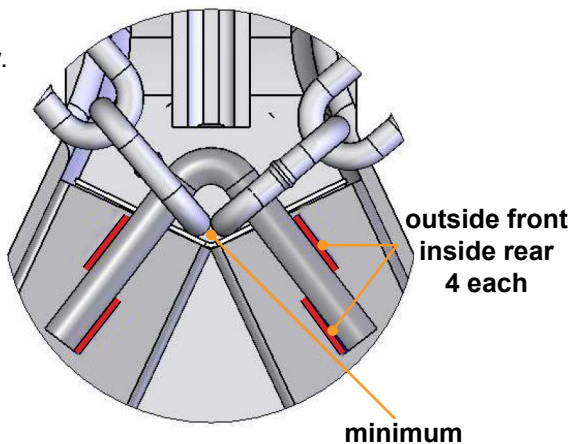

Fig.4
5. Center the chain elbow and safety chain assembly under the A-frame coupler so that the ends of the chain elbow are touching the ends of the two A-frame tubes (Fig.4). The elbow should be pointing away from the trailer.
NOTE: The outside point of the elbow bend **MUST** measure 1 3/8" maximum to 1 1/8" minimum from the A-frame (Fig.4).
6. Stitch weld each end of the chain elbow to the A-frame tubes (Figs.4 and 5). Make certain to weld both the inside and outside of the chain elbow (Fig.5 and 6).